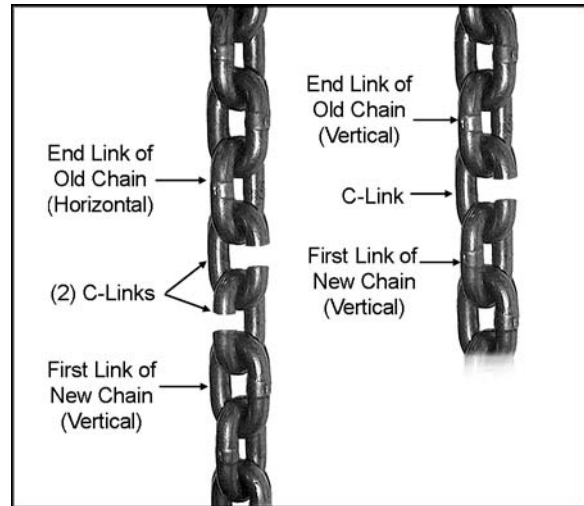

Figure 15
Vertical and horizontal are determined from the relationship with the load sprocket. Vertical links will be guided by the center slit in the load sprocket. Horizontal links will engage in the oval pockets on the sprocket. See Figure 15.
4. Using a C-link(s), connect the new chain to the old chain. If the end link of the old chain is horizontal, use two C-links. If the end link of the old chain is vertical, use one C-link. See Figure 15. Using the correct number of C-links will properly orient the chain, and ensure that first link on load side end is a horizontal link.